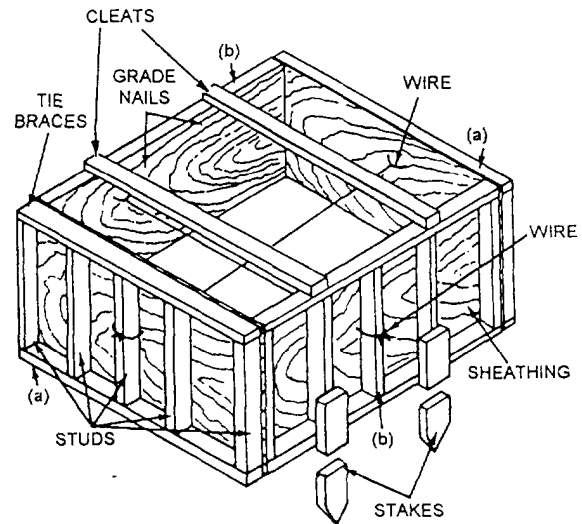
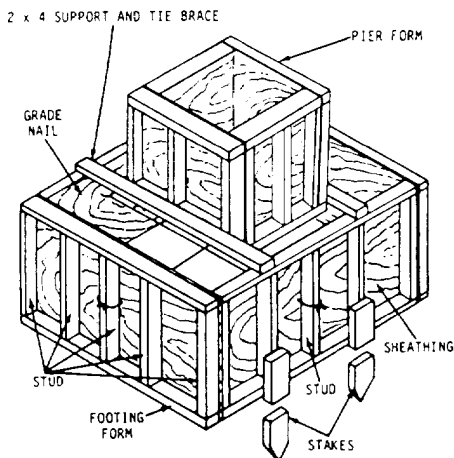

Figure 7-1.-Typical foundation form for a large footing.
Figure 7-3.-Footing and pier form.
Make the first pair of opposing panels (figure 7-1 (a)) to exact footing width. Then, nail vertical cleats to the exterior sides of the sheathing. Use at least
1-by-2-inch lumber for the cleats, and space them 2 1/2 inches from each end of the exterior sides of the panels (a), and on 2-foot centers between the ends. Next, nail two cleats to the ends of the interior sides of the second pair of panels (figure 7-1 (b)). The space between these panels should equal the footing length plus twice the sheathing thickness. Then, nail cleats on the exterior sides of the panels (b) spaced on 2-foot centers.
Erect the panels into either a rectangle or square, and hold them in place with form nails. Make sure that all reinforcing bars are in place. Now, drill small holes on each side of the center cleat on each panel. These holes should be less than 1/2 inch in diameter to prevent paste leakage. Pass No. 8 or No. 9 black annealed iron wire through these holes and wrap it around the center cleats of the opposing panels to hold them together (see figure 7-1). Mark the top of the footing on the interior side of the panels with grade nails.
For forms 4 feet square or larger, drive stakes against the sheathing, as shown in figure 7-1. Both the stakes and the 1 by 6 tie braces nailed across the top of the form keep it from spreading apart. If a footing is less than 1-foot deep and 2-feet square, you can construct the form from 1-inch sheathing without cleats. Simply make the side panels higher than the footing depth, and mark the top of the footing on the interior sides of the panels with grade nails. Cut and
**FOUNDATION AND PIER FORMS COMBINED.**— You can often place a footing and a small pier at the same time. A pier is a vertical member that supports the concentrated loads of an arch or bridge superstructure. It can be either rectangular or round. You build a pier form as shown in figure 7-3. The footing form should look like the one in figure 7-1. You must provide support for the pier form while not interfering with concrete placement in the footing form. You can do this by first nailing 2-by-4s or 4-by-4s across the footing form, as shown in figure 7-3. These serve as both supports and tie braces. Then, nail the pier form to these support pieces.